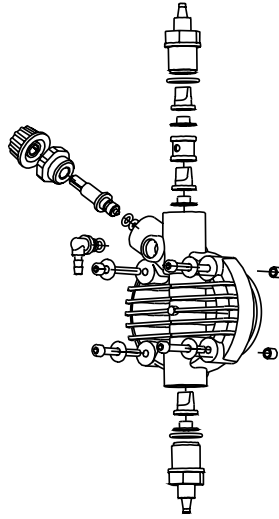

Fig. 10
3. Drain or flush all dosing liquid from the pump head. This operation can also be done with the pump disconnected from the plant by turning the pump upside-down for 15 to 30 seconds and without connecting the tubing to the nipples: if this operation is not possible, dismount and remount the pump head using the four mounting screws. (Fig. 10).
- the additive concentration in the pipework; a reduction of this concentration could be caused by the wearing of the valves, in which case they need to be replaced (Fig. 10) or by the clogging of the filter which then has to be cleaned as in point 3 here below.
This operation can also be done with the pump disconnected from the plant by turning the pump upside-down for 15 to 30 seconds and without connecting the hose to the nipples; if impossible, dismount and remount the pump head (Fig. 10) using the four mounting screws.
As the system is quite robust there are no apparent mechanical problems. Occasionally there might be a loss of liquid from the nipple because the tube nut has loosened, or more simply the discharge tubing-has broken. Very rarely there may be losses caused by the breakage of the membrane, or by the membrane seals in which case they have to be replaced by disassembling the four screws of the pump head fig. 10), when re-mounting the pump head ensure that the screws are replaced properly, along with "O" ring. After repair, the metering pump will need to be cleaned of additive residues which can damage the pump casing.
❶ THE METERING PUMP GIVES PULSES BUT THE ADDITIVE IS NOT INJECTED
- a. Dismount the suction and discharge valves, clean them and replace, see position (fig. 10). Should the valves be swollen, check valves material against our chemical resistance compatibility chart and fit correct valves. Standard valves are Viton. Upon request ball check valve, can be supplied.